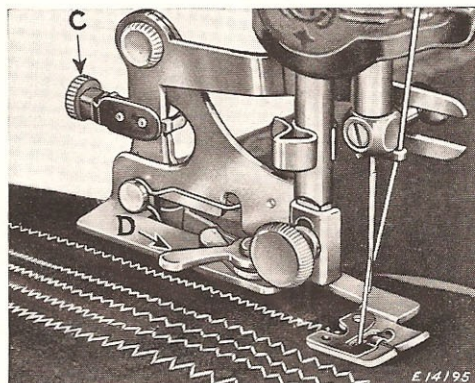

Fig. 5. Zigzag Stitching
For zigzag stitching, the straight stitch lever (D) should be in the position shown in Fig. 5.